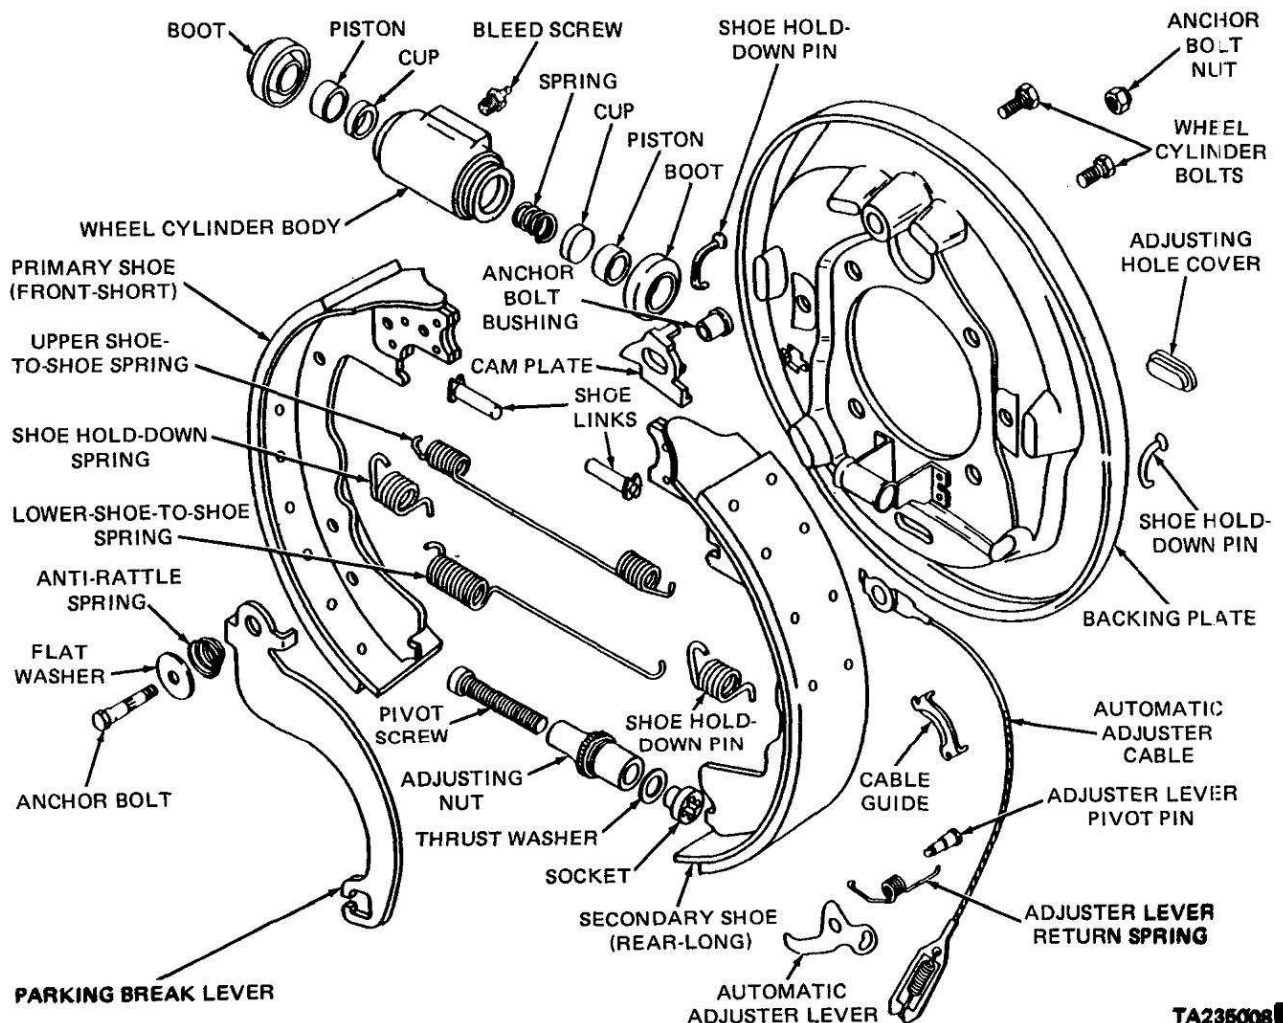

Figure 2-80. Rear Brake Assembly.
(1) Unhook the adjusting lever return spring from the lever (figure 2-80). Remove the lever and return spring from the lever pivot pin. Unhook the adjuster lever from the adjuster cable assembly.
(2) Using brake spring pliers, unhook the upper shoe-to-shoe spring. Unhook and remove the shoe hold-down springs.
(3) Disconnect the parking brake cable from the parking brake lever.
(4) Remove the shoes with the lower shoe-to-shoe spring and the star wheel as an assembly.
(5) Clean the backing plate.
(6) Clean the threads of the adjusting screws, then inspect them for pulled or stripped threads.